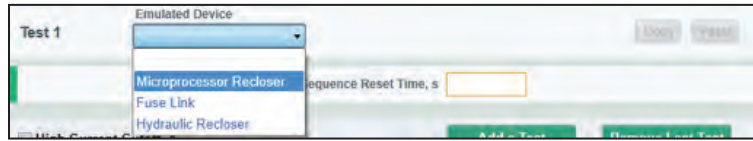

Figure 84. The Microprocessor Recloser option selected.
**Emulated Device.** Select the **Microprocessor Recloser** option. See Figure 84.